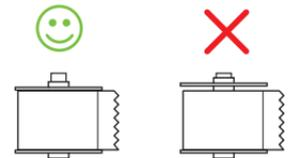

Figure 6
- 5 Slide the spool guide onto the right side of the spool and press the guide tightly against the side of the label roll, **leaving no gap** between the roll and the spool. See Figure 6.